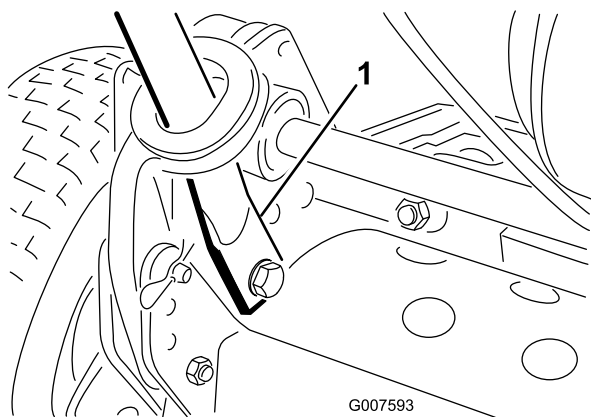

Figure 3
5. Squeeze the handle ends inward and install them on the mounting pins (Figure 3).
6. Secure the handle ends to the mounting pins with the bolts, washers, and lockwashers previously removed (Figure 3).
7. Secure the bottom of handle arms to each side of the mower with the bolts and locknuts previously removed (Figure 3). Ensure that you install the bushings in the handle arm mounting holes.
8. Secure the handle arms to the rear of the frame with the hairpin cotters and ring pins previously removed (Figure 3).